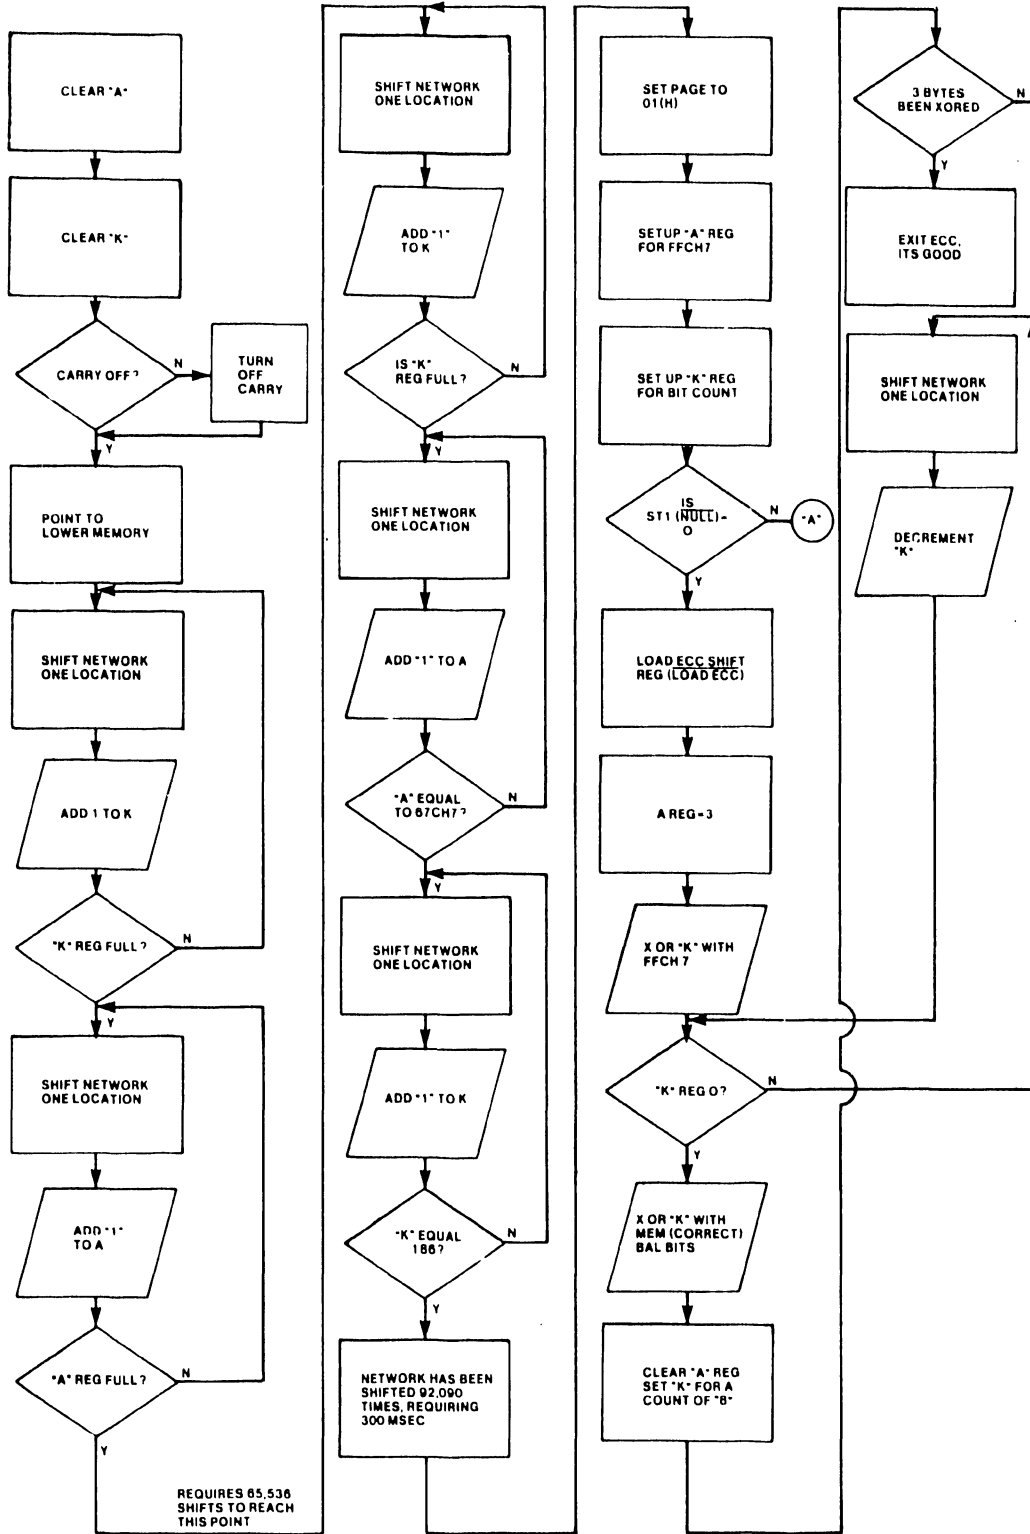

Figure 5-6. ECC Code Handling Flowchart
5.1.4.4 ECC -- The Error Correction Circuit along with an ECC routine in the microcode is responsible for detecting and correcting any single-bit errors that occur during a read operation. Figure 5-6 is a detailed flowchart illustrating the ECC code handling routine.
Figure 5-6 is a read data flow diagram illustrating the hardware involved when data is read from the disk, processed through the 2280 DPU, and written into the 2200. The theory discription presented below references schematic diagrams located in Appendix D at the end of this document.